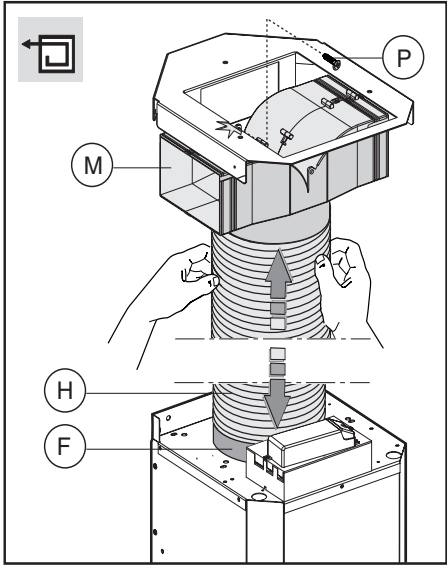
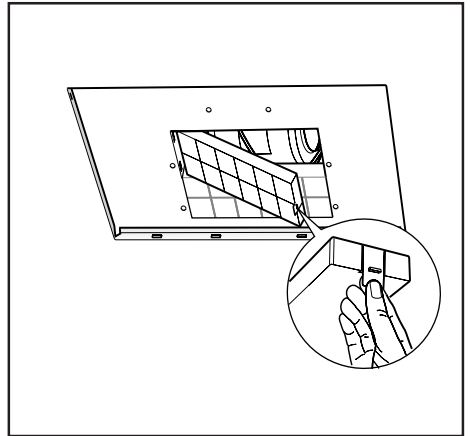

Fig.7
Fig.10
- **Filter hood:** connect the flexible hose to the baffle plate **M** and tighten screws **P** as indicated in (fig. 7), the active carbon filters should be fitted to the extraction assembly inside the hood (fig. 10). If the kit is not supplied, order it from your local dealer as an accessory.